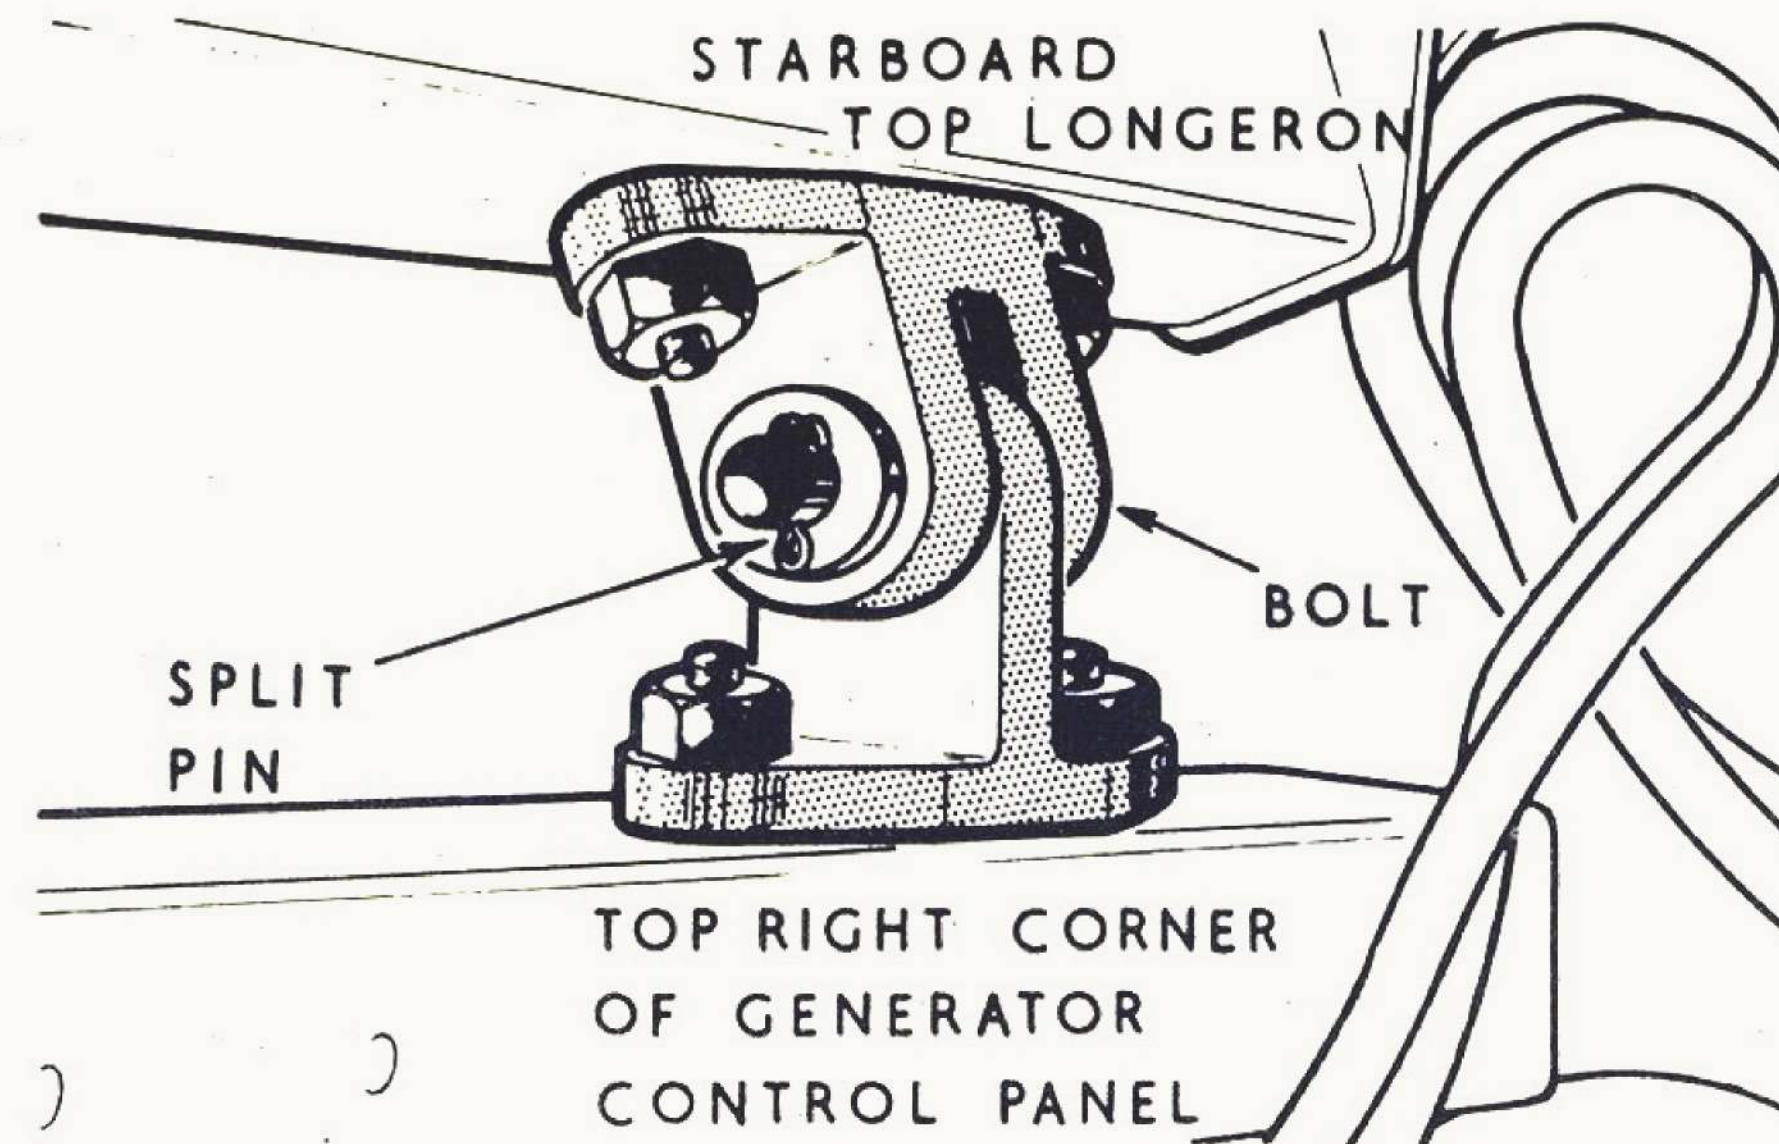

FIG.2 GENERATOR CONTROL PANEL UPPER ATTACHMENTS
- (1) Render the aircraft electrically safe, as described in Group A.1 of this chapter.
- (2) Remove the radio access door.
- (3) Disconnect cable assembly F49 from the plug located at the top of the supply panel. Seal off the plug and socket with an approved cap and cover.
- (4) Disconnect cable assemblies C37, C38, F52 and C5 from the differential cut-outs and the battery relay mounted on the control panel. Remove any straps and clips securing these cable assemblies, insulate the bare cable ends and stow the assemblies away from the panel.
- (5) **Disengage** the four Dzus fasteners securing the bottom of the panel and, with a second person supporting the panel, withdraw the two top hinge pins by removing the split-pins and washers (fig. 2).
- (6) Lower the panel and remove it from the aircraft, complete with cable assembly F49.